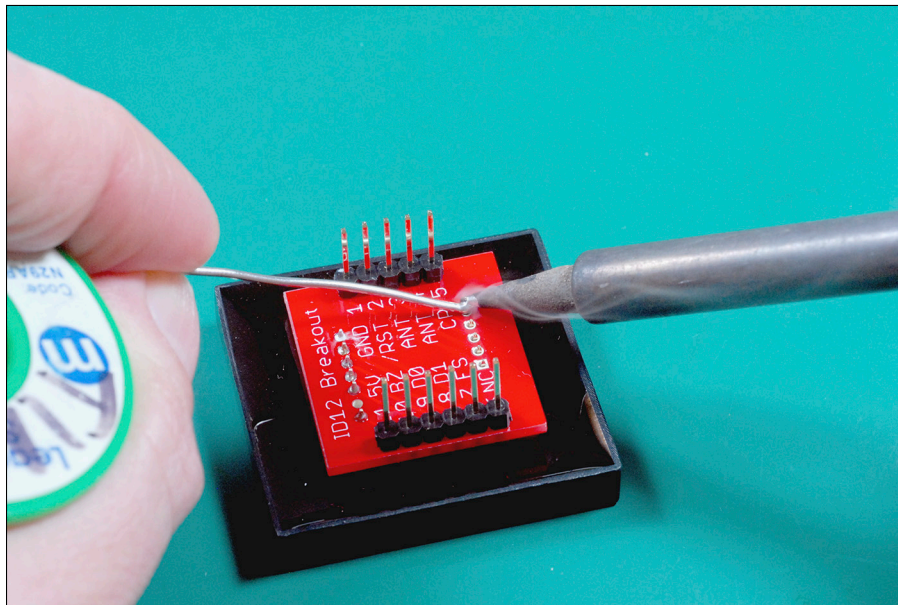

Figure 9-7:
You should work carefully, but quickly when soldering any integrated circuit (IC). The pins are rated to withstand a certain amount of heat during soldering, but lingering too long on one could damage your reader. If you're working slowly, it's a good idea to take a break for a few moments between pins so the heat doesn't build up during the process. Don't rush. Carefully solder the breakout board to your reader, as shown in Figure 9-7. The RFID reader IC isn't going anywhere!